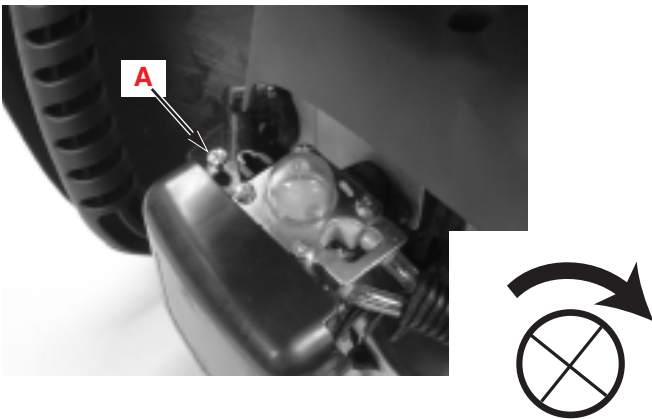

Fig. 9
2. Insert phillips or flat screwdriver into access hole A (figure 9). Turn 1/8 turn clockwise to increase idle speed and 1/8 turn counterclockwise to decrease idle speed.